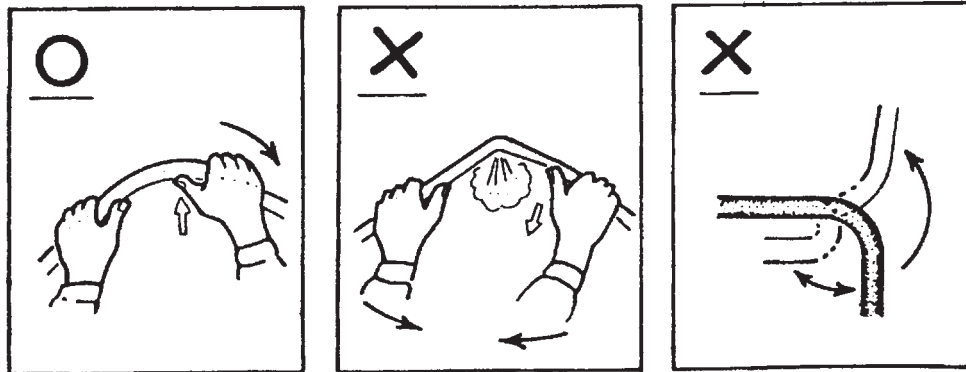

Fig. 22
- (3) When bending the pipe, make sure that radius of the bend must be at least 10cm, or the pipe may get flat; once the pipe is bent, do not bend it back and forth repeatedly, or it may get twisted or crack (see Fig. 22)